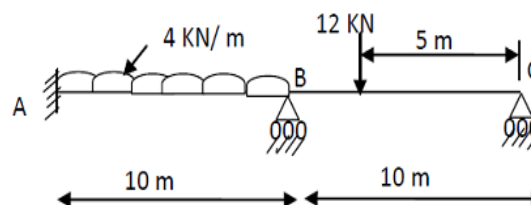

Figure 1
b) Calculate the plastic moment capacity required for the continuous beam with working loads shown in Figure1. [6M]